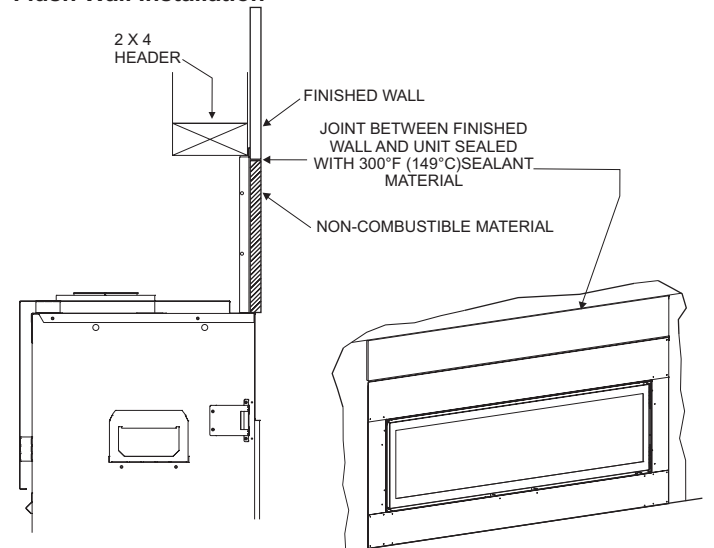

Figure 29
- Non-Combustible board installed over the fireplace face (framing bracket flush). **See Figure 29.**